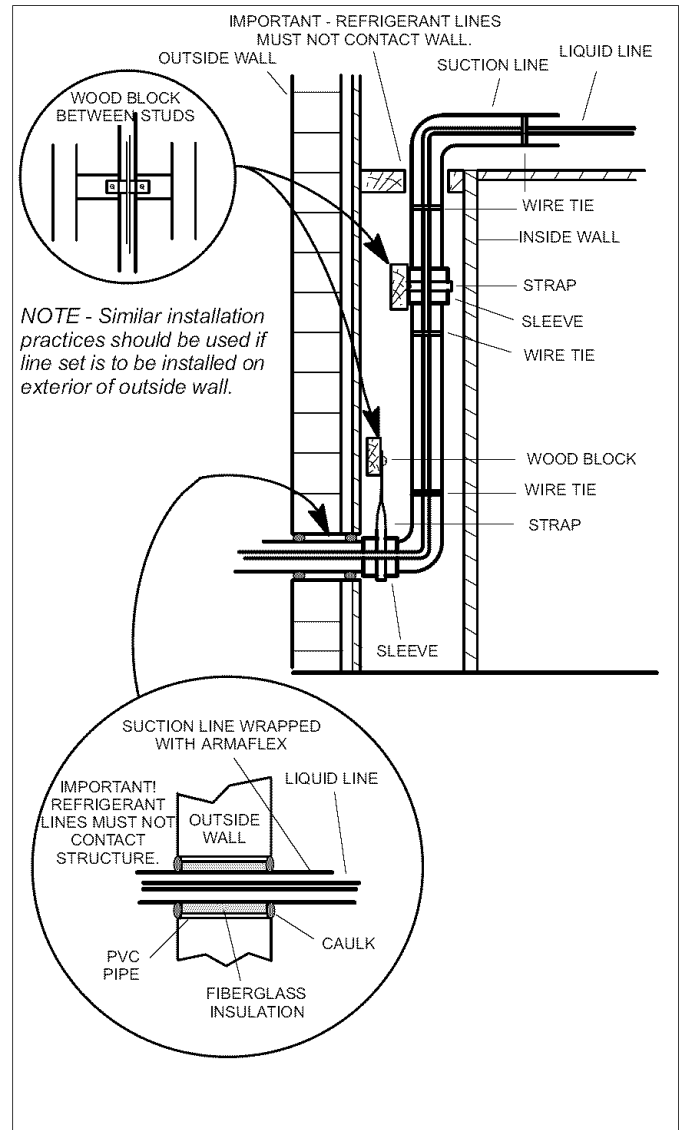

Figure 11. Refrigerant Line Set: Installing Vertical Runs (New Construction Shown)
- Installation of **line set on vertical runs** is illustrated in figure 11.